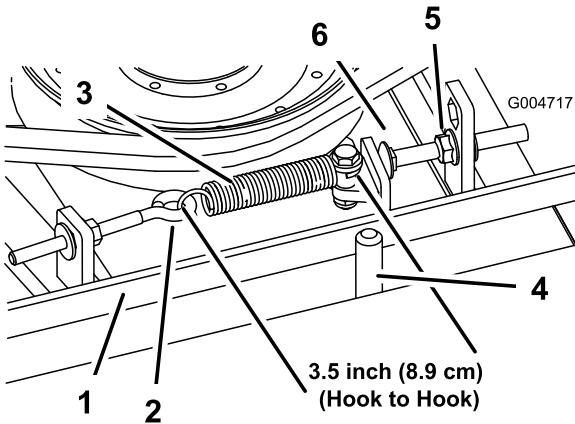

Figure 69
When properly tensioned, the inside measurement of the extension spring (hook to hook) should be approximately 8.3 to 9.5 cm (3-1/4 to 3-3/4 inches). Once the correct spring tension is attained, adjust the stop bolt (carriage bolt) until there is approximately 2 to 5 mm (0.065 to 0.185 inch) clearance between the head of the bolt and the idler arm (Figure 69).
Note: Ensure that the belt is positioned on the spring side of the belt guide (Figure 69).
9. Connect the extension spring (Figure 69) to the eye bolt and tension the belt as follows: